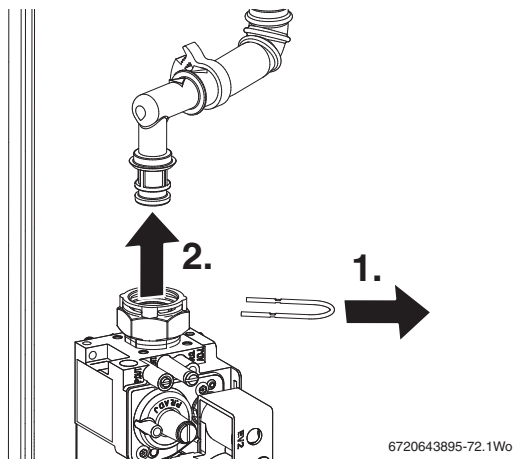

Fig. 72 Gas valve upper connection
1. Refer to figure 72 and remove the wire clip from the gas valve outlet.
- Remove wire clip from gas valve outlet then pull gas pipe free from the gas valve (see figure 72).